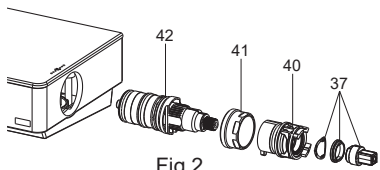

Fig.2
取下齿套组件(37)，接着将螺母(41)和塑料套(40)卸下。小心地卸下温控阀(42)。用热醋进行清洗(Fig.2)。
Remove the adapter spline kit(37), unscrew the nut(41) and stopper(40). Remove the cartridge (42) cautiously. Clean the cartridge by soaking it in warm vinegar(Fig.2).